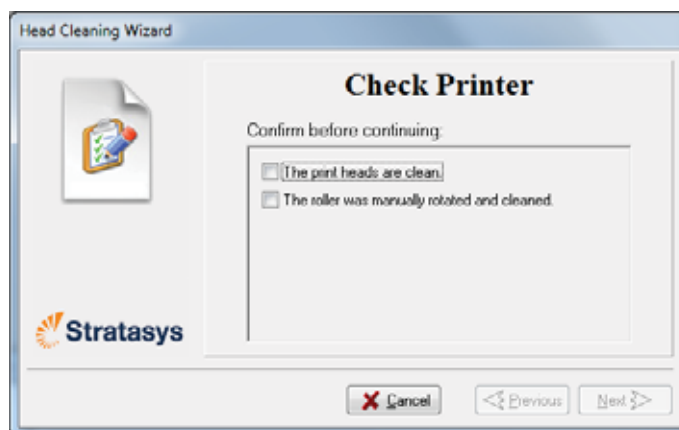

Figure 6-19: Head cleaning wizard—steps 5–11
11. When you have finished cleaning, select the confirmation check boxes in the wizard screen (see figure 6-19) and click Next.